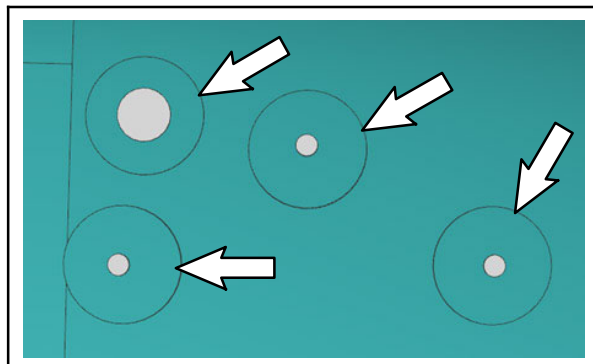

FIG. 5 - M20/T20/M30
5. From the inside the front shroud, drill a 2 in. (51 mm) hole at the previously drilled locations. **Do Not** drill into/through the front of the front shroud. (Fig. 5)